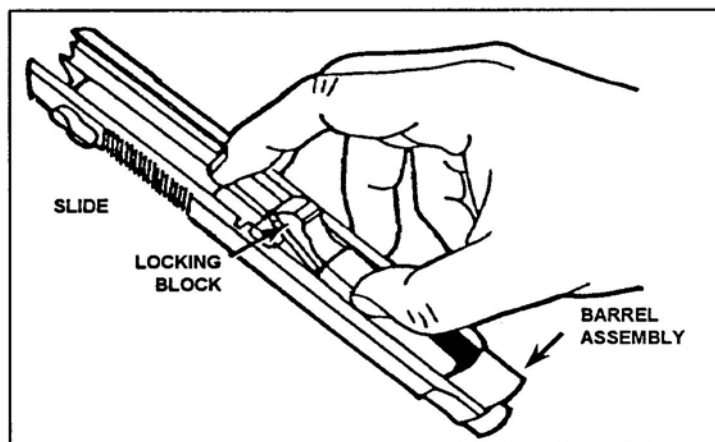

Figure 5. Insertion of the barrel assembly.
6. Assemble the pistol (Figure 5).